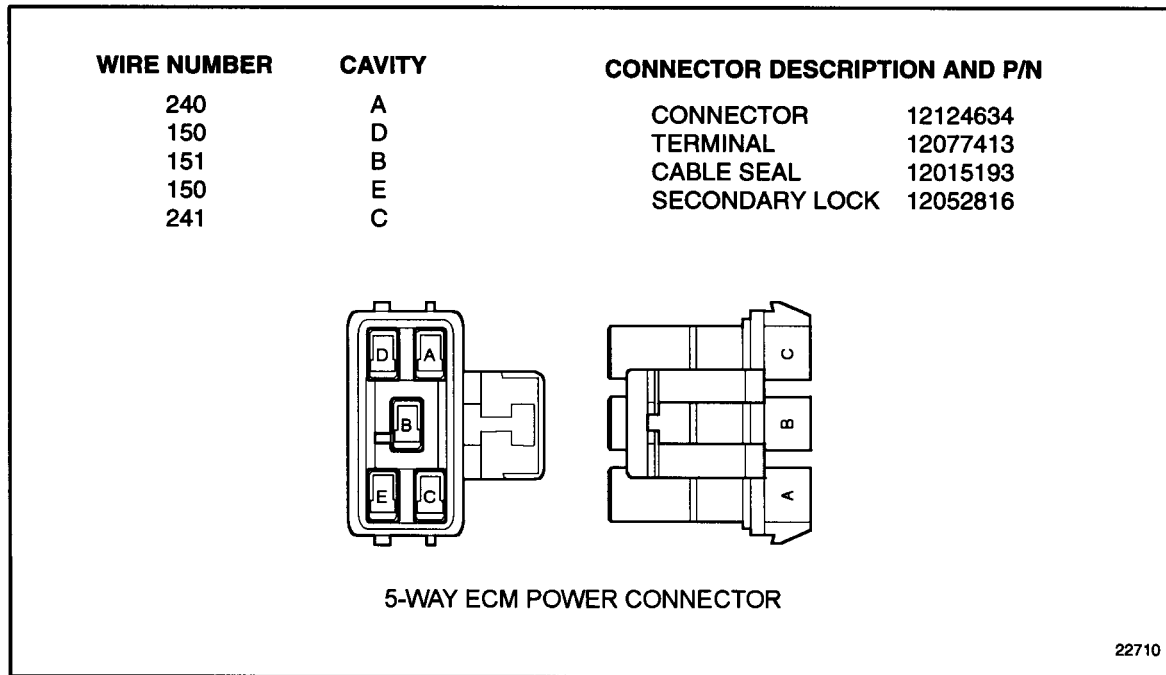

Figure 33-7 5-Way ECM Power Connector
2. Disconnect the vehicle harness and 5-way power connector harness at the ECM. See Figure 33-7.